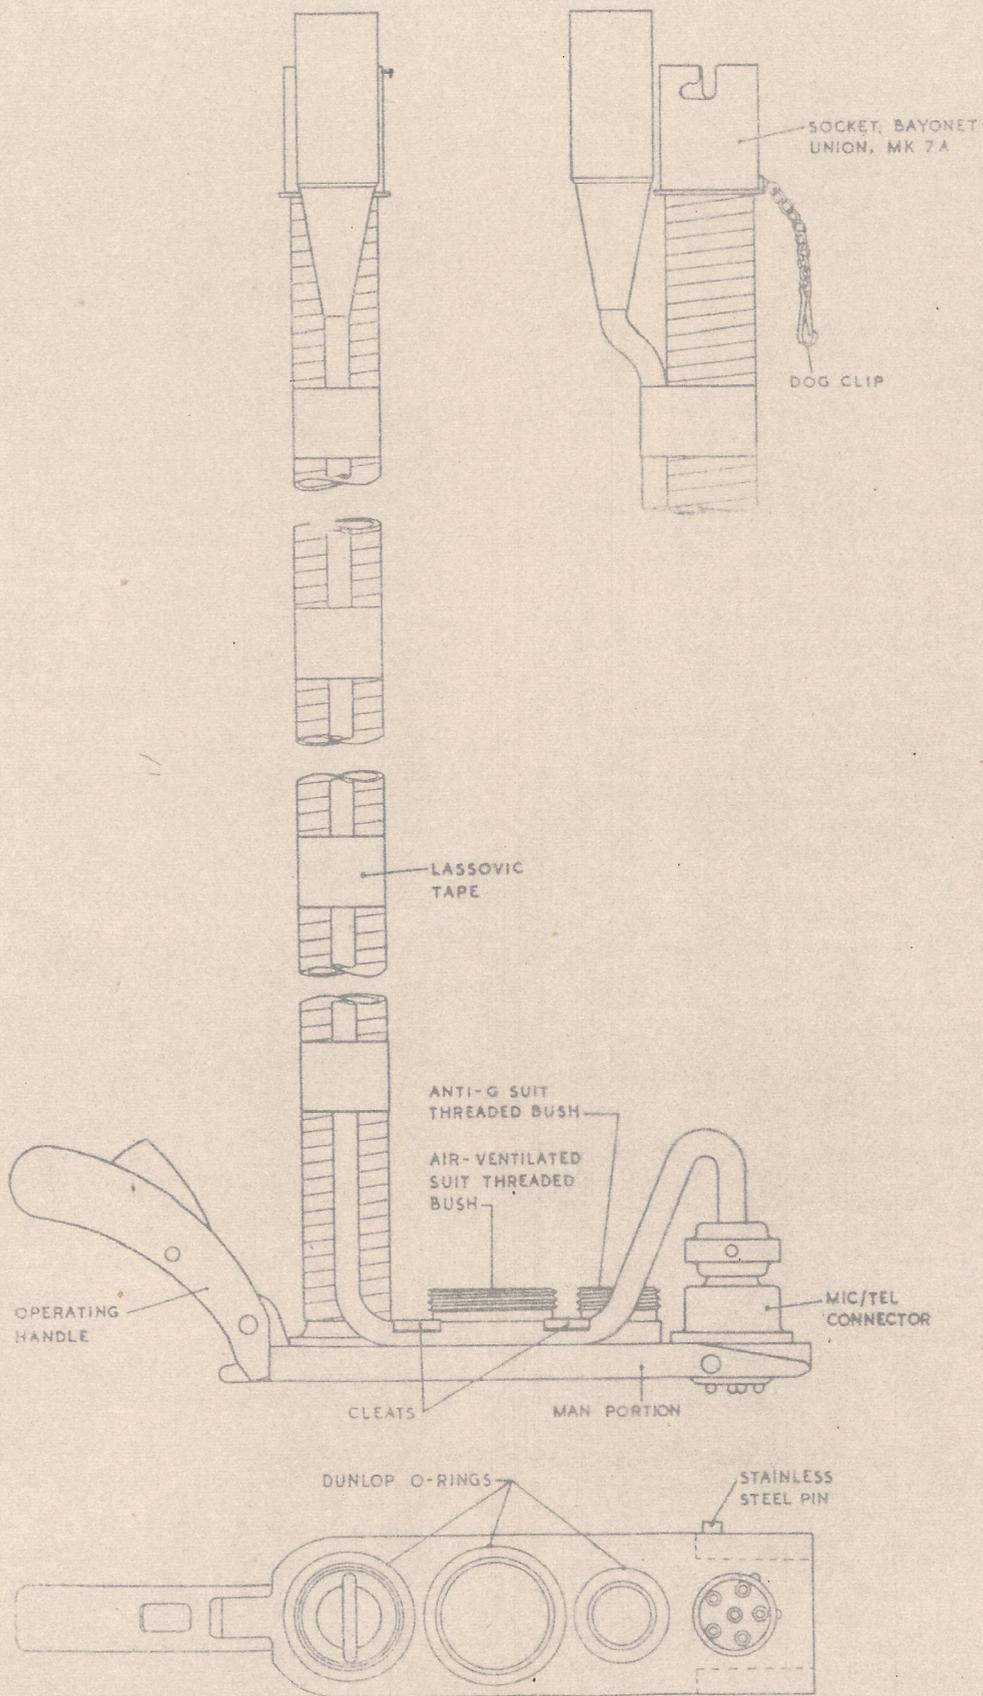

Fig. 2. Details of personal component (low altitude)
6. The personal component (*fig. 2*) forms part of the flying clothing and is only connected to the seat component when the occupant fits his equipment prior to a sortie. On ejection, the personal component remains attached to the seat component until separation by the time-release unit or by the manual over-ride control. Before leaving the seat after completing a sortie, the occupant disconnects the personal component as described later. In this component, the air ventilated suit supply is the only service which embodies an automatic valve. This is provided to prevent the ingress of water should the occupant be forced to alight in the sea.